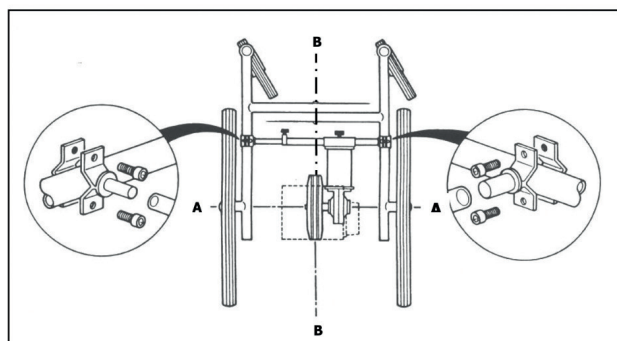
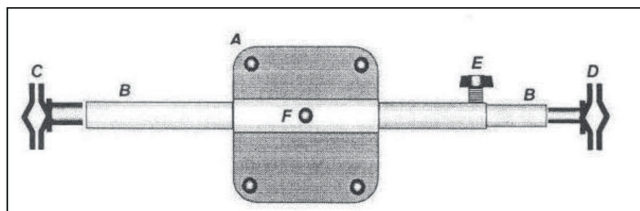

Fig 1 Powerpack fitting and bracket location diagram
Fig 2 Crossbar assembly (front view)
3. Ideally the Powerpack should be positioned so that the centre of the drive wheel/s runs approximately in line with the centre of the wheelchair rear wheels, Fig 1 A-A (single and twin wheel models). This is not possible on some chairs, so it may have to be positioned more towards the rear but be aware that the further towards the rear it is fitted, the greater chance of it causing discomfort to the attendant whilst walking. Fit it as far forward as possible, but never fit forward of the wheelchair rear wheels. The drive wheel/s should always be set to run in the centre of the wheelchair (Fig 1 B-B). Twin wheel models should have a wheel running equal distance either side of the centre line of the wheelchair (Fig 1 B-B).
4. Take the two mounting brackets and you will see that one has a larger diameter shaft than the other (Fig 2 C & D). Fit the larger diameter right-hand mounting bracket to the bottom of the wheelchair frame on the right-hand side, as viewed from the rear. Fit the smaller diameter left-hand bracket in a corresponding position on the left-hand side of the chair. Fig 1 demonstrates the approximate positioning of the mounting brackets on the chair (when viewed from above). Do not tighten at this stage.